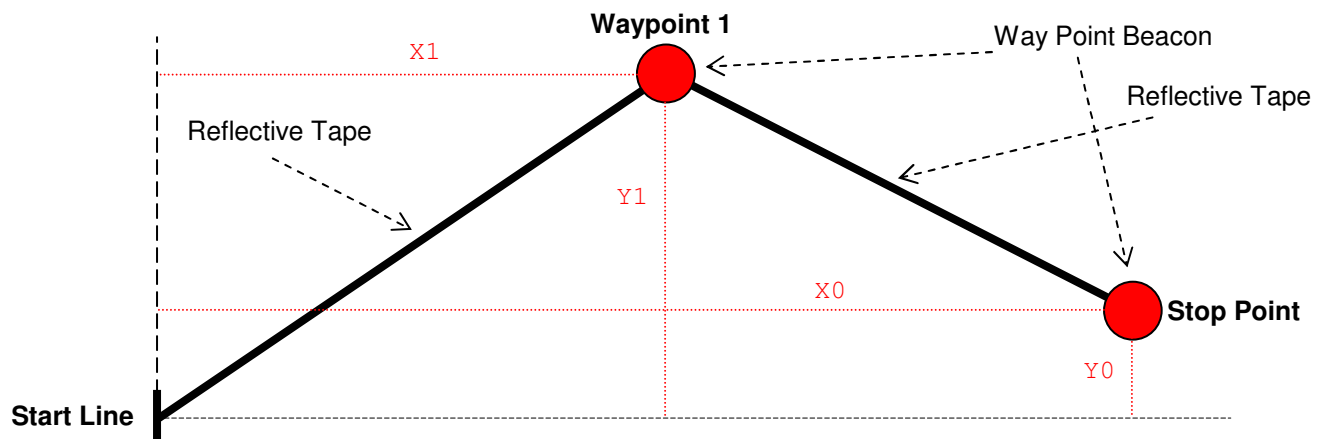

Fig. 2 - Sample Humanoid Race Track
- 3.2 The Race Track: The Race Track shown in Fig 2 is constructed directly on the floor of the competition venue by WHITE color reflective tape of WIDTH 25mm.